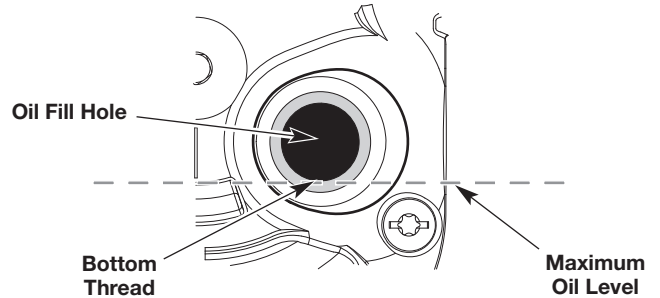

Fig. 16
5. Look into the oil fill hole; use a flashlight if necessary. **The oil level should just touch the bottom thread of the oil fill hole** (Fig. 16).